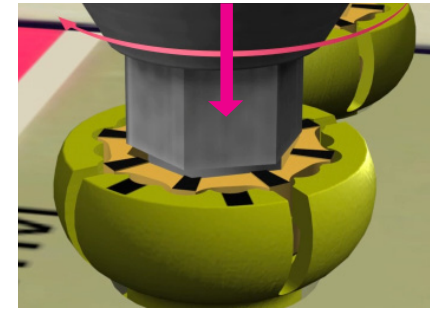

Figure 46
- Once fully engaged, use your free hand to engage the locking mechanism into the bone screw locking cam. This is achieved by lightly pushing down and rotating the four-pronged wheel until the hex of this outer locking mechanism is fully engaged into the hex of the bone screw locking cam. (fig. 46).